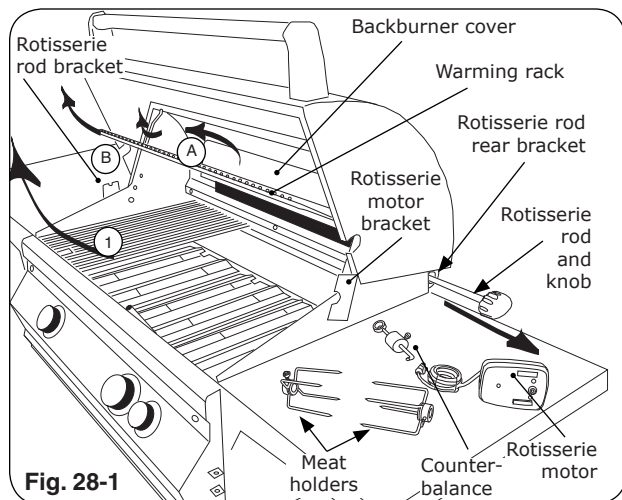
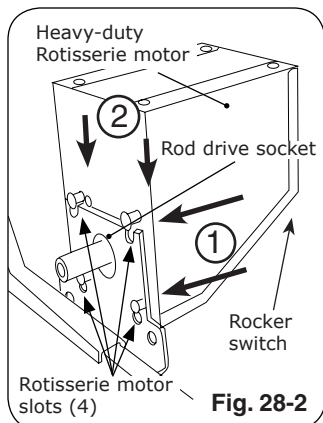
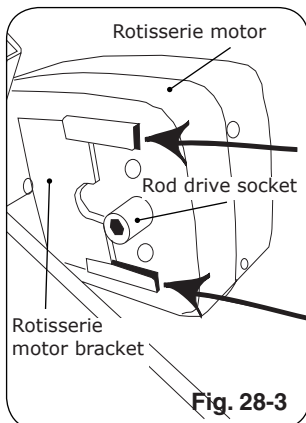

Fig. 28-1
Fig. 28-2
Fig. 28-3
2. Slide rotisserie motor fully onto motor bracket (right side, Fig. 28-1, Fig. 28-2 and Fig. 28-3).
3. Remove rotisserie rod from rear bracket (Fig. 28-1) and attach knob if necessary.